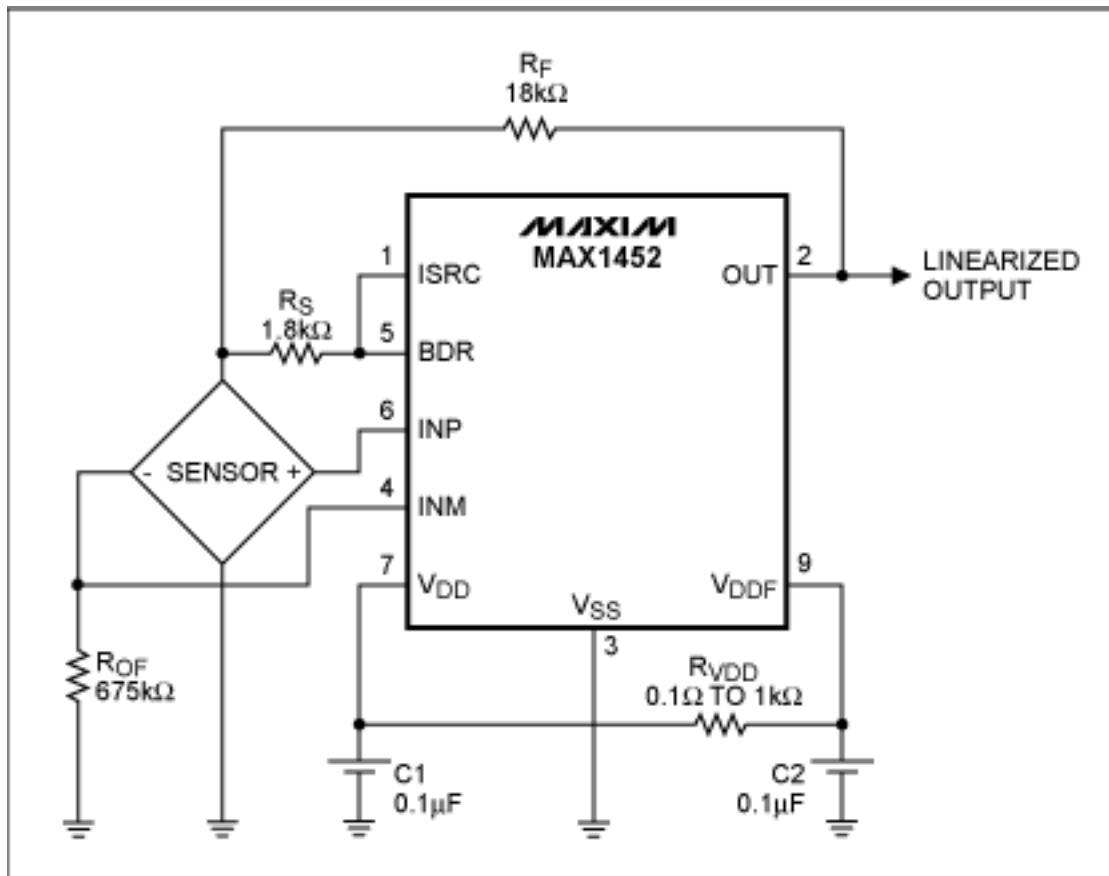

Figure 1. Basic nonlinearity-correction circuit.
**Figure 1** illustrates the circuit required for implementing nonlinearity correction in the MAX1452. In this linearizing circuit, the principle of operation is that the excitation voltage to the sensor bridge is modulated by the amplified output voltage from the OUT pin. As OUT goes high with increasing output from the sensor, the excitation on the bridge increases slightly, creating a nonlinear transfer function.